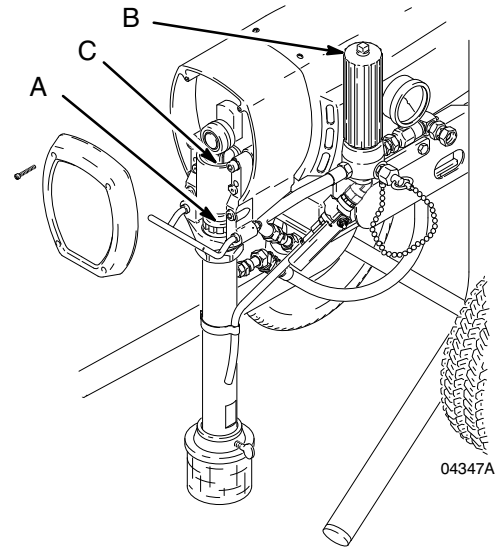

Fig 5
1. Check wet-cup (A) daily. See Fig 5. First relieve pressure and remove wet-cup plug. Keep wet-cup 1/3 full with Graco Throat Seal Liquid at all times to help prevent material from building up on piston rod which causes packings to wear prematurely. Tighten wet-cup, which is also packing nut, just enough to stop leakage. Overtightening wet-cup may cause packings to bind and wear out quickly. Use screwdriver and light hammer to adjust wet-cup.
2. Clean fluid filter (B) often and whenever sprayer is stored. First relieve pressure. See manual 307-273 for cleaning procedure.
3. Fill connecting rod cavity (C) with motor oil every 100 hours of operation. First relieve pressure and then remove front cover.